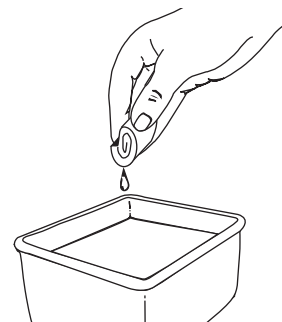

Fig. 27
3. Wash the filter in detergent and water (Fig. 27). Rinse the filter thoroughly and allow it to dry.